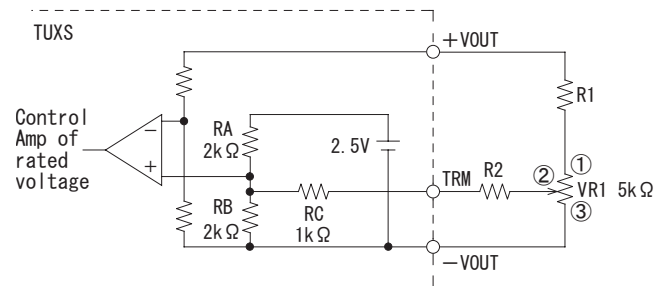

Fig. 4.1 Output voltage control circuit
(1) Output voltage adjusting
- By connecting the external potentiometer (VR1) and resistors (R1,R2), output voltage becomes adjustable, as shown in Fig.4.1, recommended external parts are shown in Table 4.1.